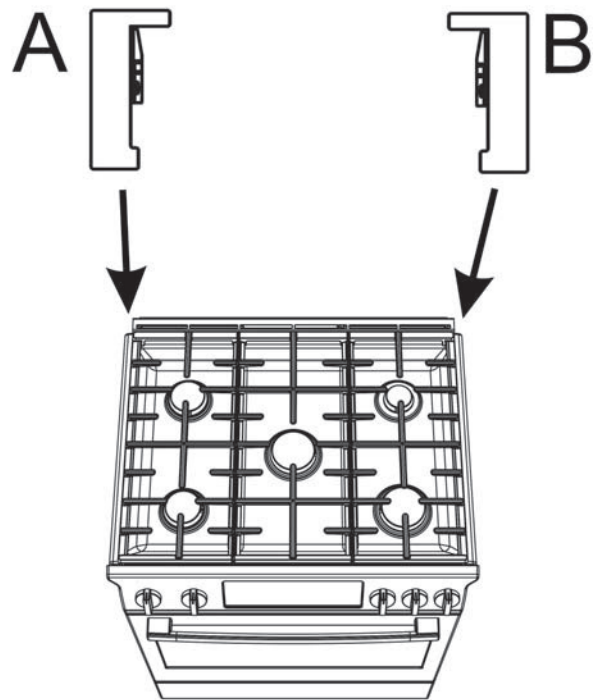
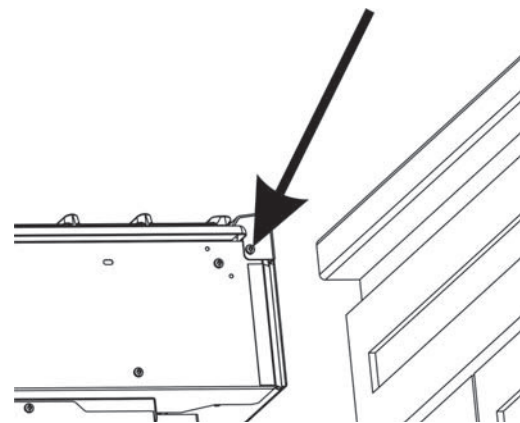

Figure 1: Identify right and left corner covers
Figure 2: Rear trim side screw location
If the range is already installed, can the range slide out enough to give access to the side screws of the rear trim? See Figure 1: Identify right and left corner covers and Figure 2: Rear trim side screw location.
2. Identify which corner cover piece is to be attached to the left (A) and right (B) rear of the range. See Figure 1: Identify right and left corner covers.
3. Slide the range out enough to access the rear trim side mounting screws (see Figure 2: Rear trim side screw location. Read the *Proper Handling Technique Notice* in the Safety Section of this manual.
4. Remove only the two side screws holding the rear trim (one on each side); see Figure 2: Rear trim side screw location. Save these screws to attach the corner covers. If there are no screws in these locations, screws are included in the kit for this purpose.